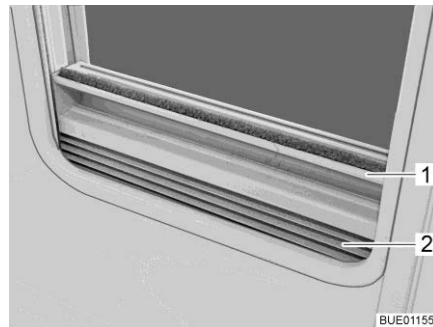

Fig. 65 Roman shade
- Closing:** ■ Grip the Roman shade (Fig. 65,2) in the middle of the holding bar (Fig. 65,1), pull it upwards and then release it at the desired height. The Roman shade will stay at this height.